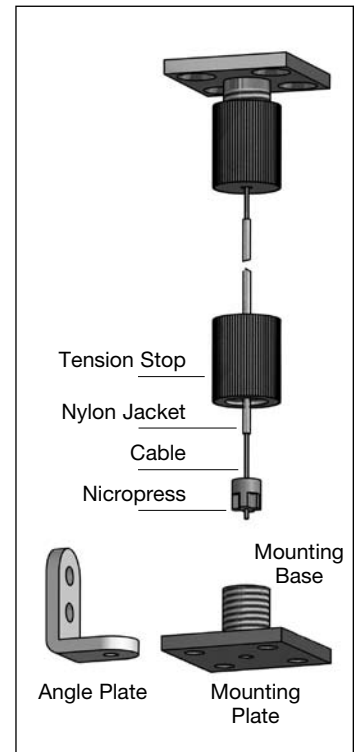

Fig. 8
- A) Turn the hembar so the open slot faces the window and the two circular slots faces the direction of shade travel. Using one of the circular grooves in the hembar, slide the hembar onto the 1/4” (6mm) rod enclosed in the bottom of the shadeband. Be careful not to tear the shadeband. The hembar should slide on easily if it is kept aligned with the shadeband (Fig. 8).
- A) Strip off approximately 3-4” of coating off the end of both drive cables. Thread one cable through one of the 2 holes in the 1/4” x 2” drive Cable Rods and out of the other hole in the rod. Using an appropriate tool, crimp the brass Nico press fitting (stop sleeve) to the end of the cable. This prevents the cable from sliding out of the rod when it is subjected to tension. (See Fig.8)
8) Install the optional idler cable kit provided (if required). (Fig.8)